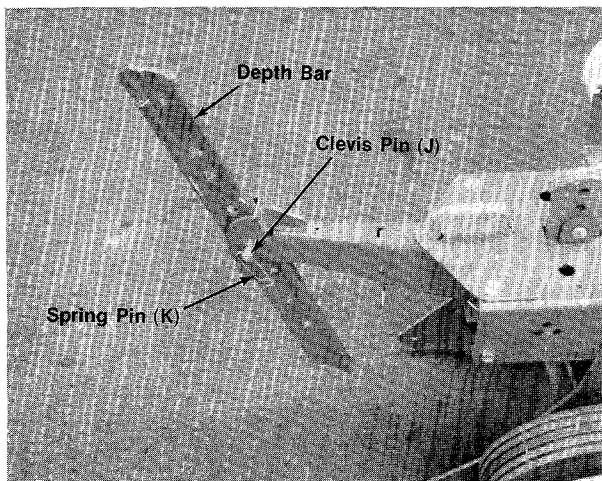

FIGURE 5.
Slide the depth bar into the tail piece to desired depth and secure with clevis pin (J) and spring pin (K). See figure 5.